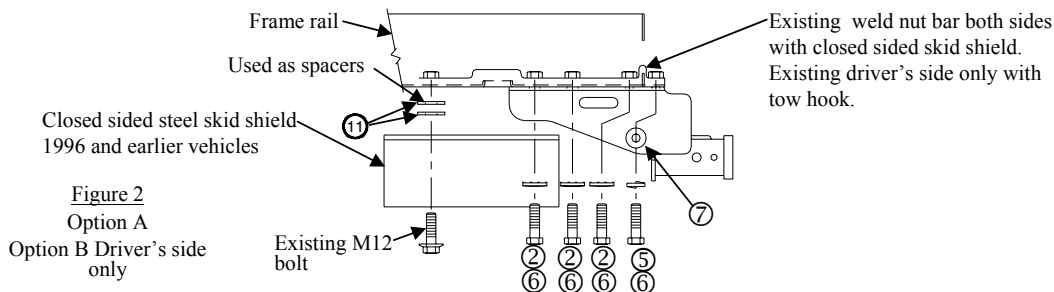

Figure 2
See Figures 2, 3, 4 & 5 for
Note: Five (5) installation options are possible depending on vehicle configuration refer to Figures 2, 3, 4 and 5.
2. Option A – See Figure 2.
Option C – See Figures 2 & 3